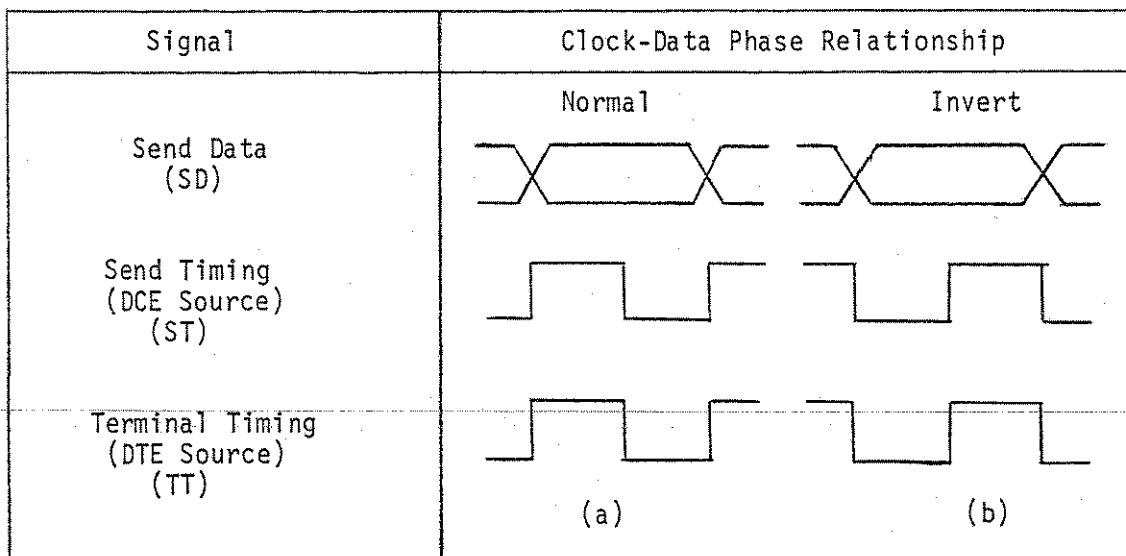

FIGURE 6-9
The TX CLK switch controls the polarity of the clock used to develop the transmit clock and data functions inside the FIREBERD 1500 for either the 422 or 423 modes of operation. The NORMAL position transmits the data-clock phasing at the 449 interface adaptor outputs as stated in the interface specifications. In the INVERT position the transmit data (SD) and clock (TT) are phased inverted with respect to the specifications (Figure 6-9).